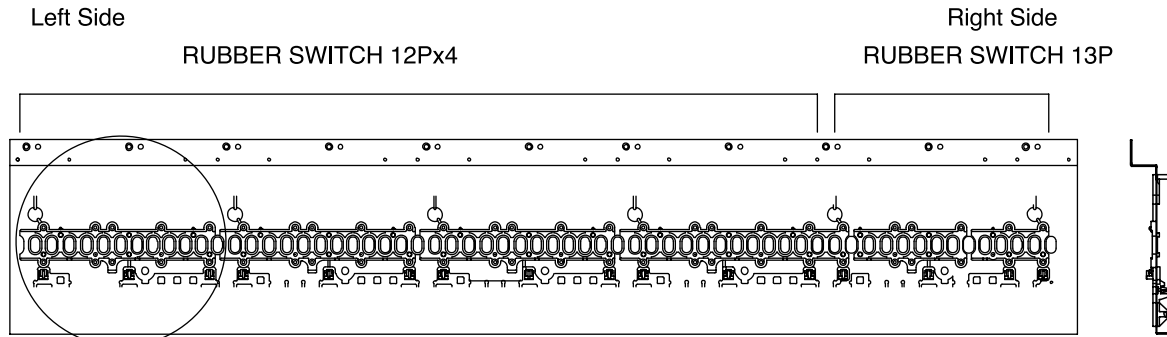

Fig.1
1. Turn the chassis over as shown in fig.1. Next, place 4 pieces of RUBBER SWITCH 12P in turn, on the chassis from the left end (the bass side of keyboard), aligning them with the long holes provided on the chassis.